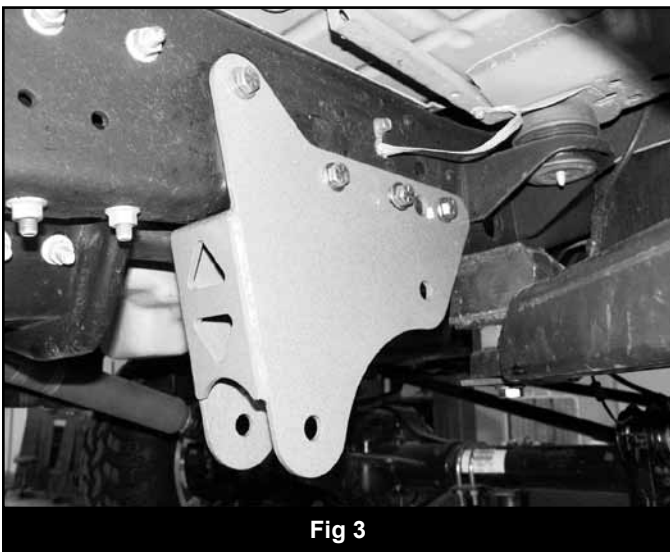

Fig 3
13. Place the new passenger's side 4-Link bracket (02027) up to the frame and align the existing rivet holes with the corresponding holes in the bracket. Attach the bracket with  $\frac{1}{2}$ " x 1-1/2" bolts, nuts and  $\frac{1}{2}$ " SAE flat washers from bolt pack #432. Torque  $\frac{1}{2}$ " hardware to 70 ft-lbs. (Fig. 3, 4)